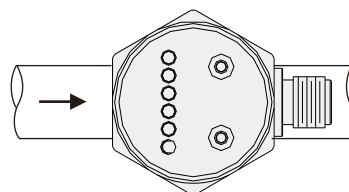

Fig. 4
4. Screw tightly to avoid. Can be installed from various angles. For best sensitivity and response speed, please install using in the demonstrated in Fig. 4